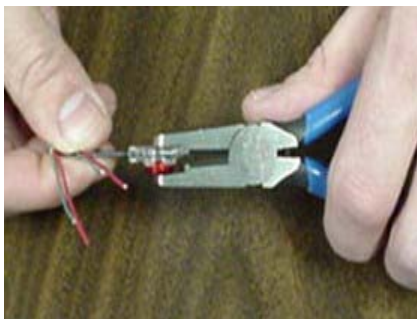

Figure 3 UR Crimping Tool
- 3 Place the connector, red cap side down, between the jaws of the UR crimping tool as shown in Figure 3. Refer